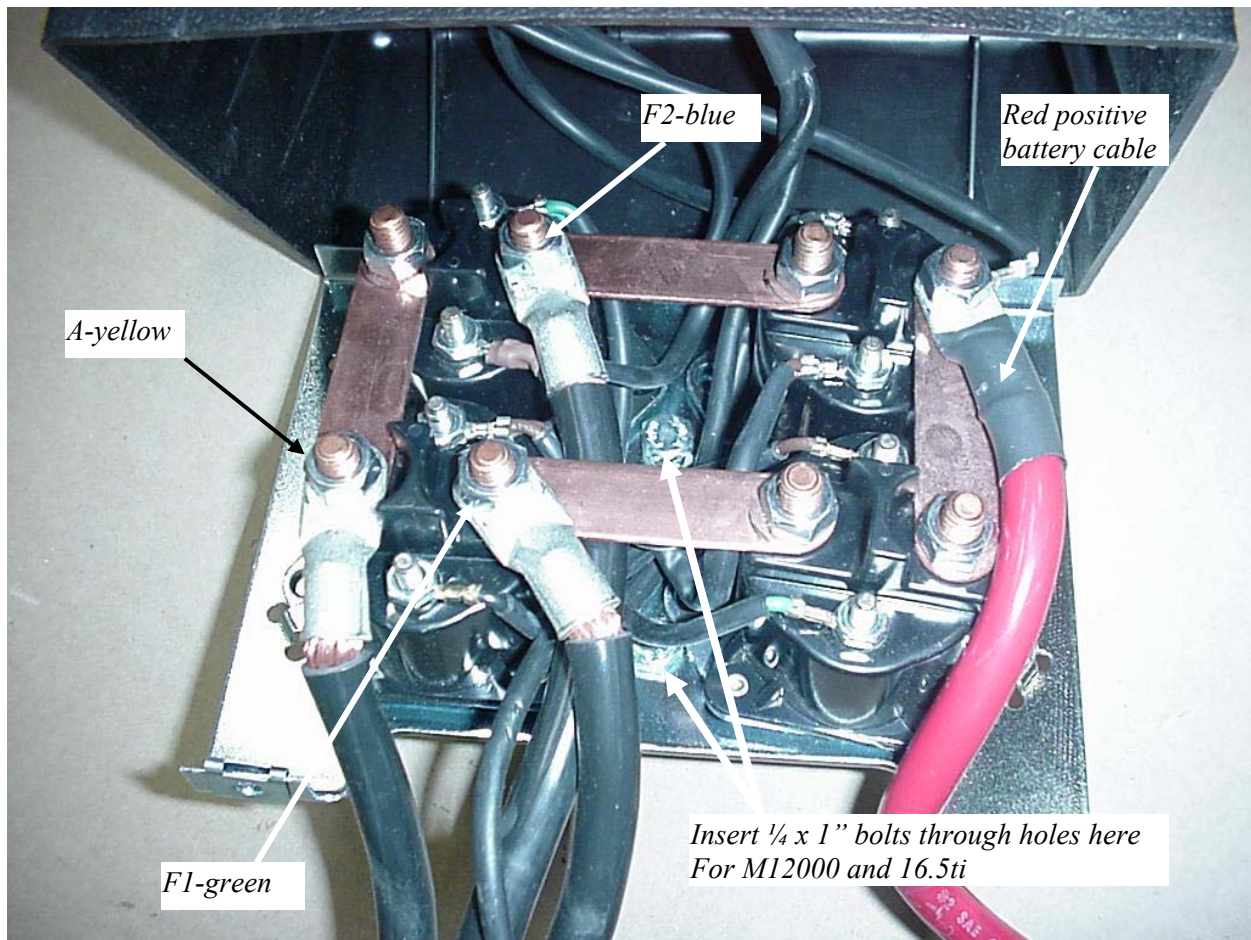

Figure 2 Inside the M12000 Control Pack (original cables shown)
2. Remove the screws around the Control Pack base. The plastic covers have three(3) screws through the sides. The 16.5ti has four(4) screws through the base. *Carefully* remove the cover. *The cover will still be connected by wires. Do not remove these wires.*
3. If you are installing a M12000 or 16.5ti Control Pack, install two(2) 1/4 x 1" bolts in the holes in the base. **Figure 2.** Install 1/4" nut/washer (washer side gripping the Control Pack base plate) on each bolt. Tighten.